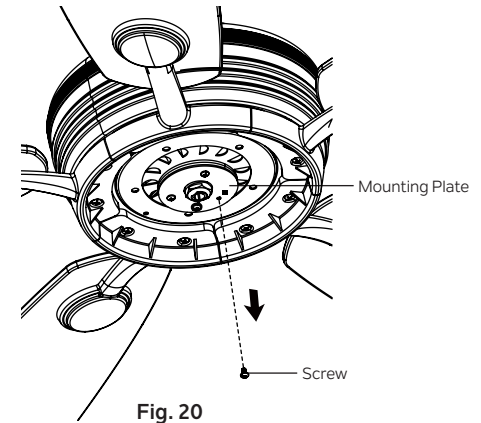

Fig. 20
Step 1. Remove the screw marked with a brown dot label on the mounting plate and keep for later use. Loosen the other two (do not remove).(Fig.20)